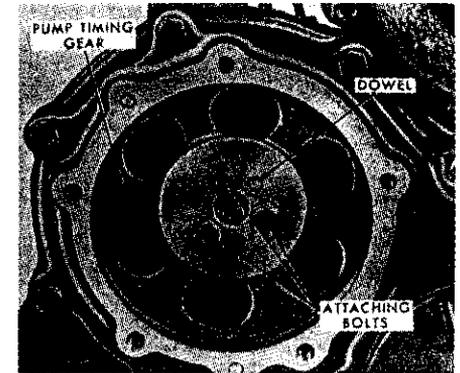

Fig. 137-View with pump drive gear cover removed from timing pump drive gear, showing C.A.V. fuel injection pump drive gear, attaching bolts and dowel pin.
**153. R&R FUEL INJECTION PUMP.** Thoroughly clean the pump, lines and connections and area around pump. Remove the pump to injector lines, disconnect the fuel inlet and outlet (return) lines from injection pump and immediately cap all openings. Disconnect the throttle control rod and fuel shut-off cable. Remove cover plate from engine timing gear cover and remove the three cap screws retaining pump drive gear to pump drive hub; refer to Fig. 137. Unbolt the injection pump from engine front plate and remove the pump assembly. The pump drive gear will remain in the engine timing cover and cannot become out of time; however, the engine should not be turned when the pump is removed.